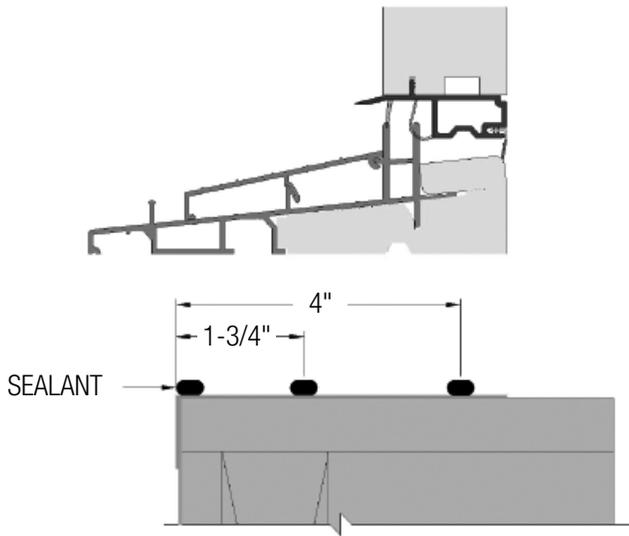

FIG. 10: 4-9/16" & 6-9/16" IN-SWING PATIO DOOR SILL
- a. Apply three 1/4" continuous beads of silicone across the entire width of the rough opening. Note that the locations are different for each door type. Figure 10 shows the silicone location for a 4-9/16" and 6-9/16" in-swing door. The bead location will be different for other jamb sizes. (Fig. 10 & 11)